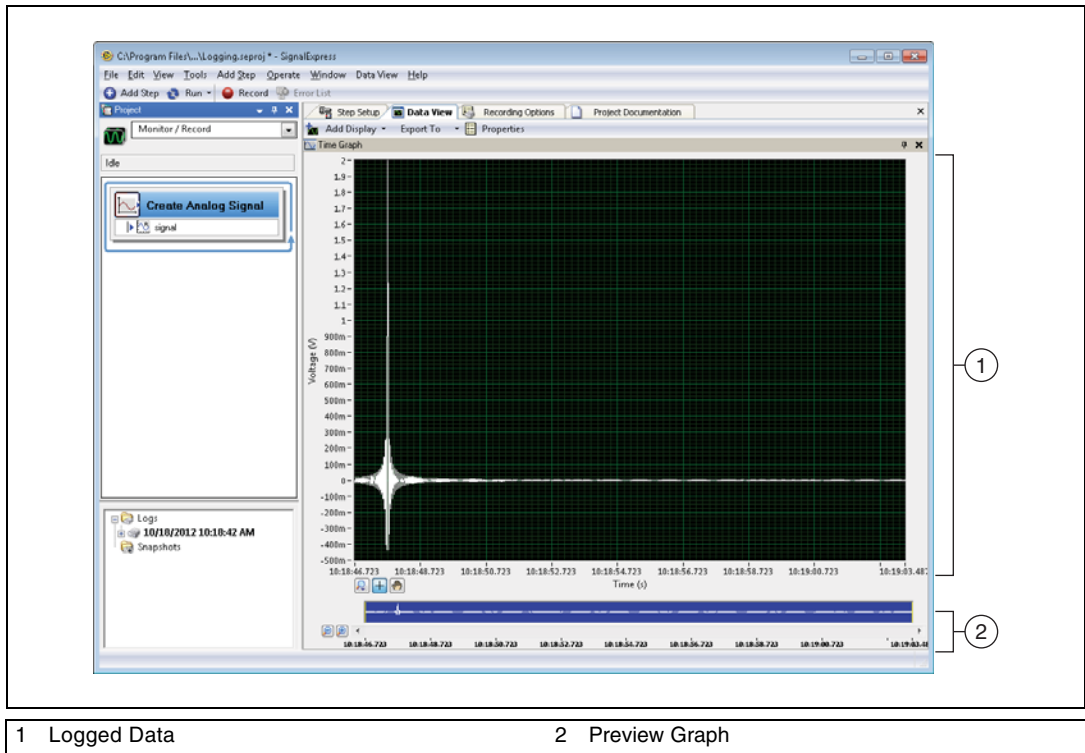

Figure 4-2. Logging.seproj
2. The **Logged Data** window displays a list of all logged data in the current project. Select the data log you just recorded from the **Logged Data** window and drag it to the **Data View** tab. The **Data View** tab displays the logged data and a Preview Graph, as shown in Figure 4-2 with the context help closed. The signal displayed on the **Data View**
tab might differ from the signal displayed in Figure 4-2, depending on how long you recorded the signal.